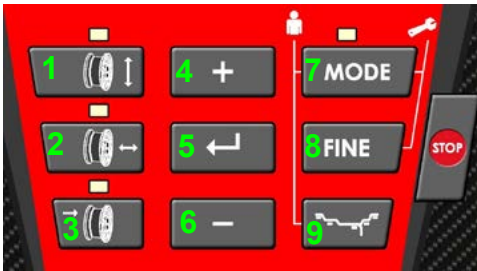
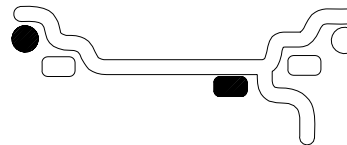

Figure 14
Figure 17
See (Figure 14). Pressing the weight selection button (9) will toggle the LED's to the weight default selections as shown. Balancing using a combination of hammer-on and adhesive weights as shown in Figure 17.